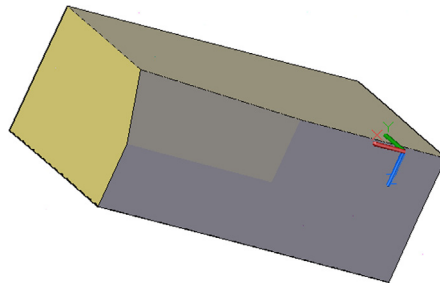

FIGURE 26.31
- **Collapse Face or Edge:** This tool, found under the Ribbon's Mesh → Mesh Edit, makes a selected face or edge disappear on a shape, with the remaining ones closing ranks around the void, as seen in Figure 26.31 with a mesh box.